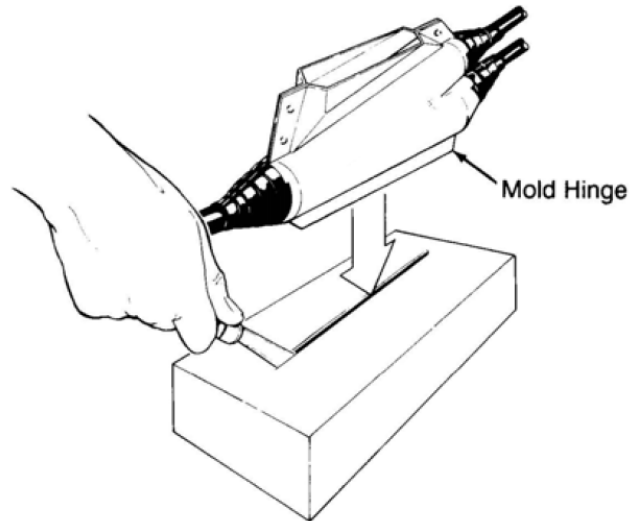

Figure 6
- Make a straight knife slit in cover of closed carton that is slightly longer than the mold's hinge. (Figure 6)
- Position carton beneath splice and press the mold's hinge into the knife slit. This holds splice in position for compound pouring. (Figure 6)